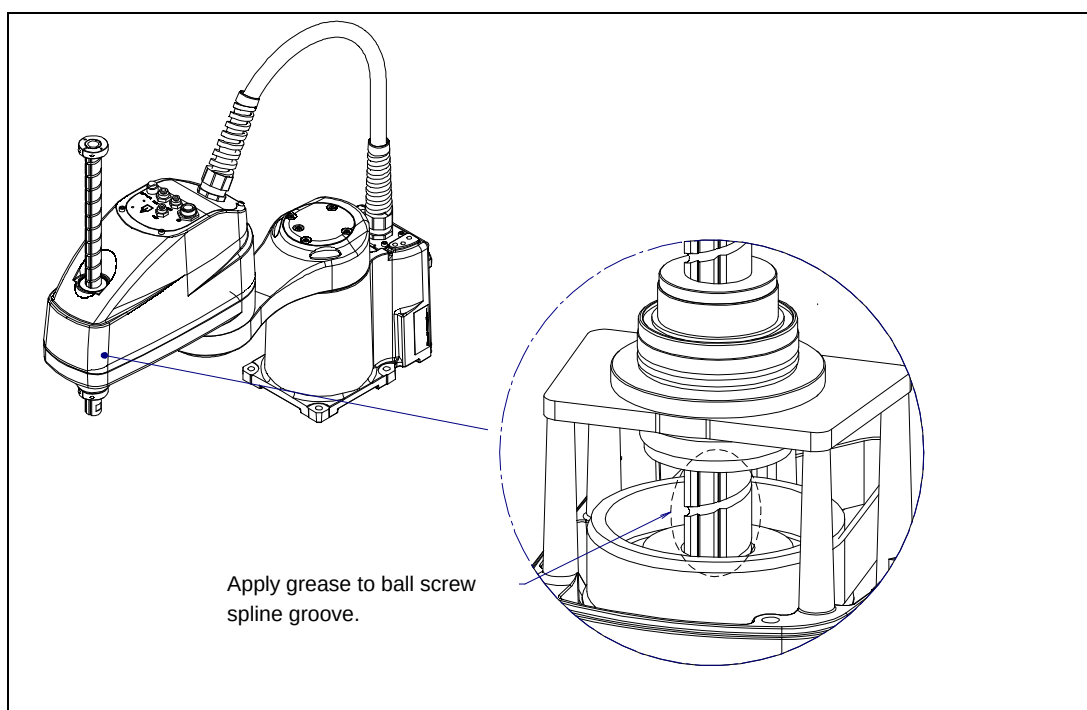

Fig. 7.3.3 (a) Applying grease of ball screw spline
- 3 Supply new grease to the ball screw spline grooved with a brush or a cylinder referring to Fig. 7.3.3 (a).